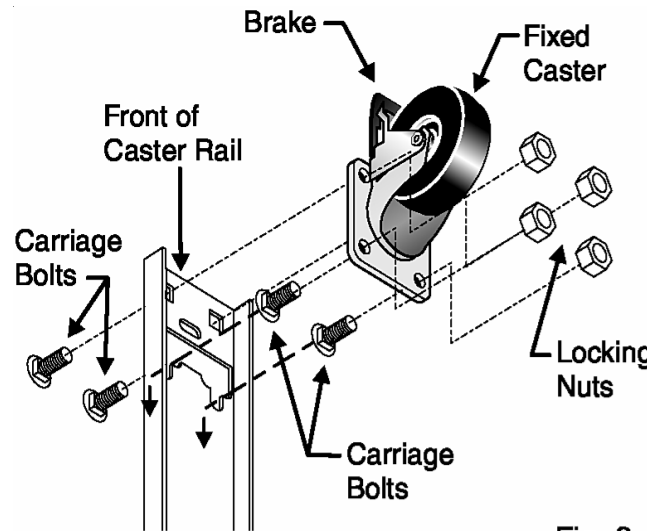

Fig. 3
- Put two (2) carriage bolts through the rear (non-brake) side of the fixed caster and hold the carriage bolts loosely in place by threading several turns each on the locking nuts. Do not tighten the bolts yet.
- Insert the two (2) front carriage bolts thru the top side of the caster rail and then thru the front holes on the caster. Attach locking nuts to each.
- Tighten all locking nuts securely using a ½ inch end wrench or socket wrench (see Fig. 3).